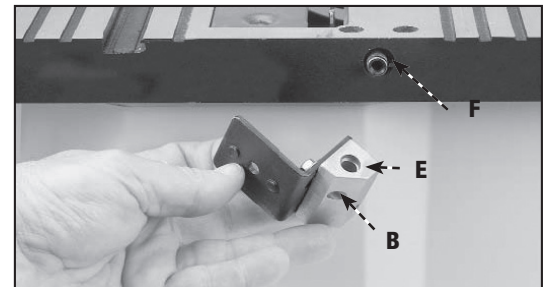

Fig. 11
4. Position the recessed end (E) Fig. 11 of the splitter bracket (B) against the end of the pivot rod (F), and fasten using the assembly in STEP 3.